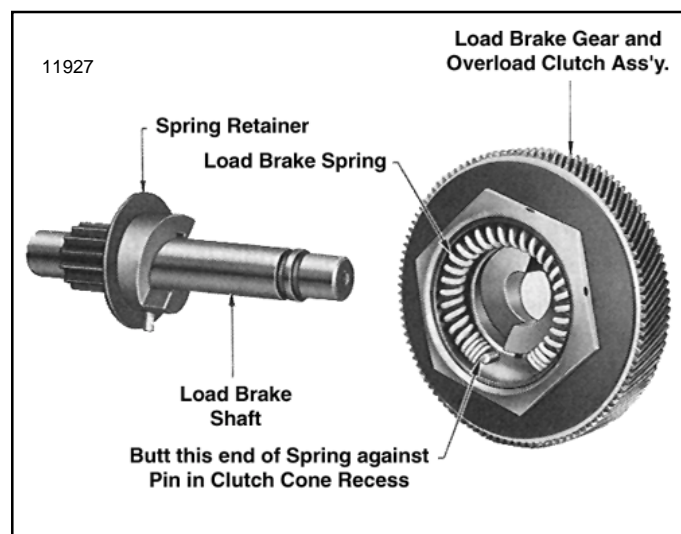

Figure 7-24. Load Brake Gear and Overload Clutch Assembly Removed from Load Brake Shaft Showing Brake Spring Installed in Clutch Cone
(3) Remove load brake gear and overload clutch assembly from output pinion shaft. Pull the spring from its recess in clutch cone (fig. 7-24) but do not further disassemble gear and clutch assembly. See **NOTE** below.
NOTE: Disassembly of the load brake gear and overload clutch assembly (fig. 7-24) is not recommended. Clutch pressure is preset by the factory at assembly to provide the correct torque to allow the clutch to refuse loads within a specified range (150% of rated load to 200% rated load). It is suggested whenever there is a need to repair or readjust the gear and clutch assembly that it be sent to an authorized **Yale** Hoist Repair Station where adequate tools, fixtures and appropriate test equipment is available.
(1) Before assembly, all parts should be cleaned and inspected to determine their serviceability. Replace parts that are worn or damaged.
(2) Reassemble load brake parts following a reverse procedure of the disassembly steps listed above, observing the assembly steps (3) through (6) below.
(3) Before installing spring in its recess in center of clutch cone (fig. 7-24) apply a good grade of ball bearing grease to inside of recess. Spring must be positioned exactly as illustrated, abutted against pin.